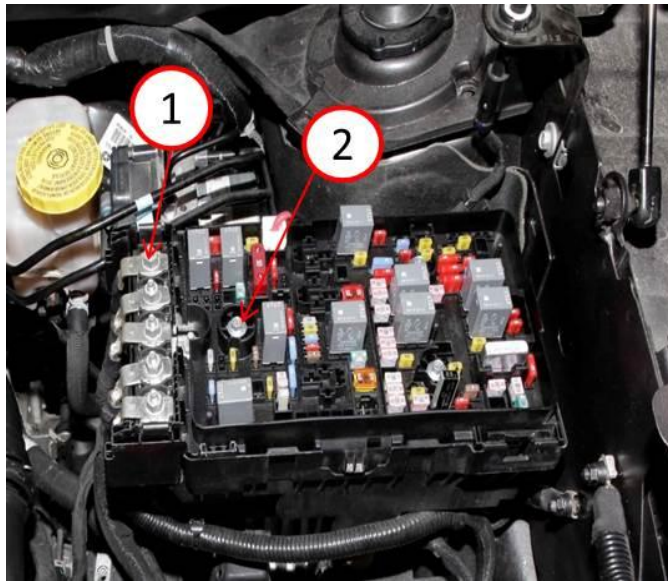

Fig. 12 PDC Wiring
14. Remove the fastener nut on #1 power wire in (PDC) (Fig. 12).
15. Loosen the bolt (Fig. 12) securing the transmission harness to the (PDC).
16. Remove the transmission wiring harness from under the PDC housing tray (Fig. 12).